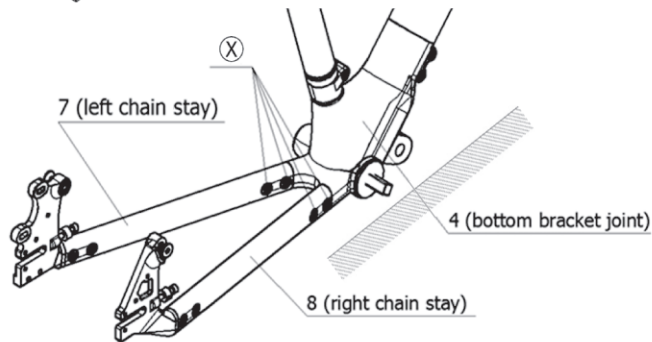

Figure 16-2.
c. Lock back the four bolts ⊗, but do not tighten them yet. Make sure that Part 7 and Part 8 still have a bit of movement and can be tightened later, as shown in Figure 16-2.